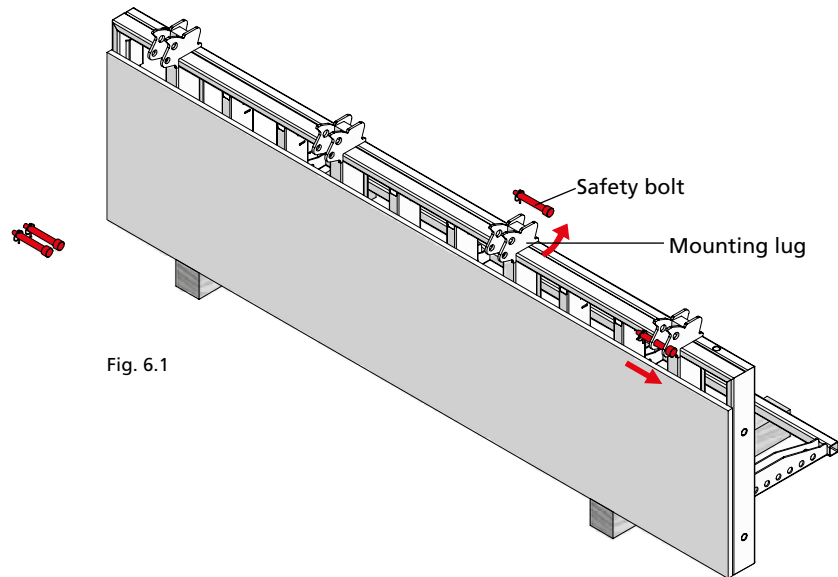

Fig. 6.1
2. Remove the safety bolts from the mounting lugs (Fig. 6.1).